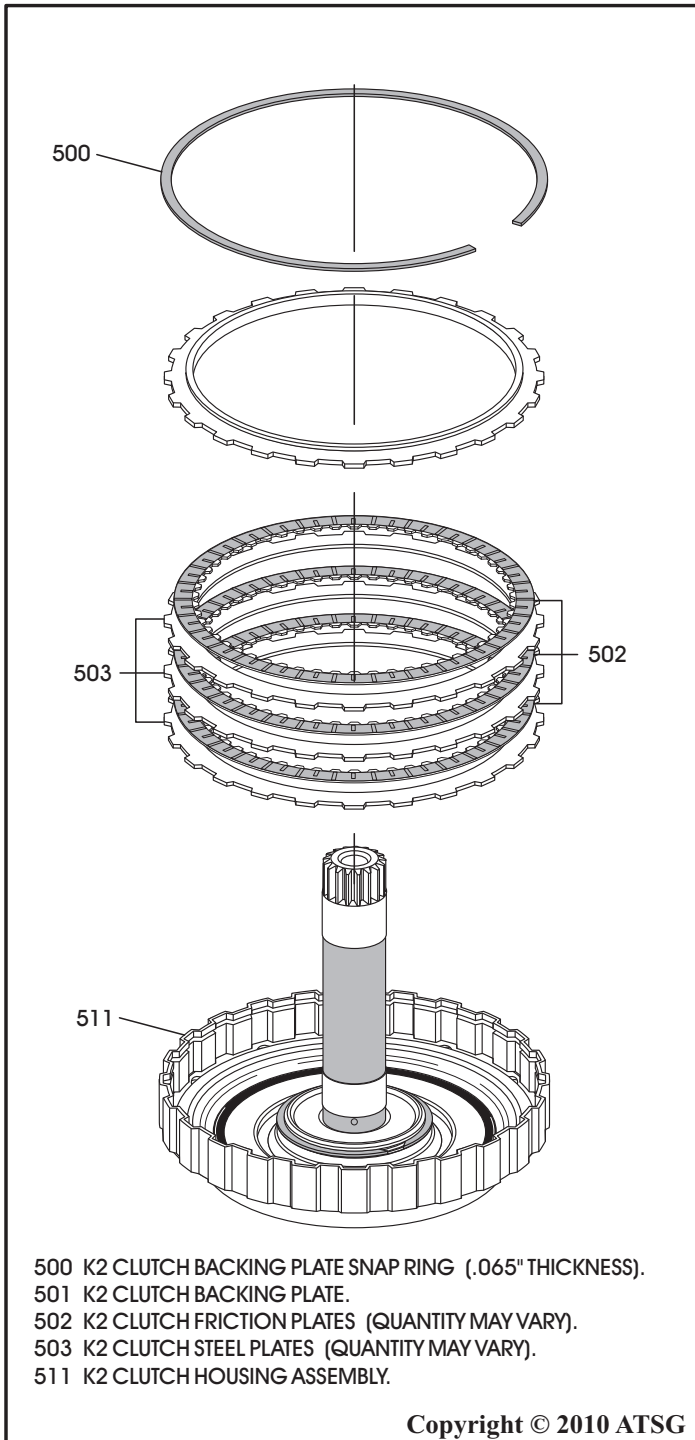

Figure 124
1. Install the K2 clutch pack beginning with a steel plate and alternating with frictions, as shown in Figure 124, until you have installed the proper quantity, as the quantity may vary.
12. Install the K2 clutch backing plate on top of the last friction, as shown in Figure 124, with step side facing up.
13. Install the K2 clutch backing plate snap ring, as shown in Figure 124.